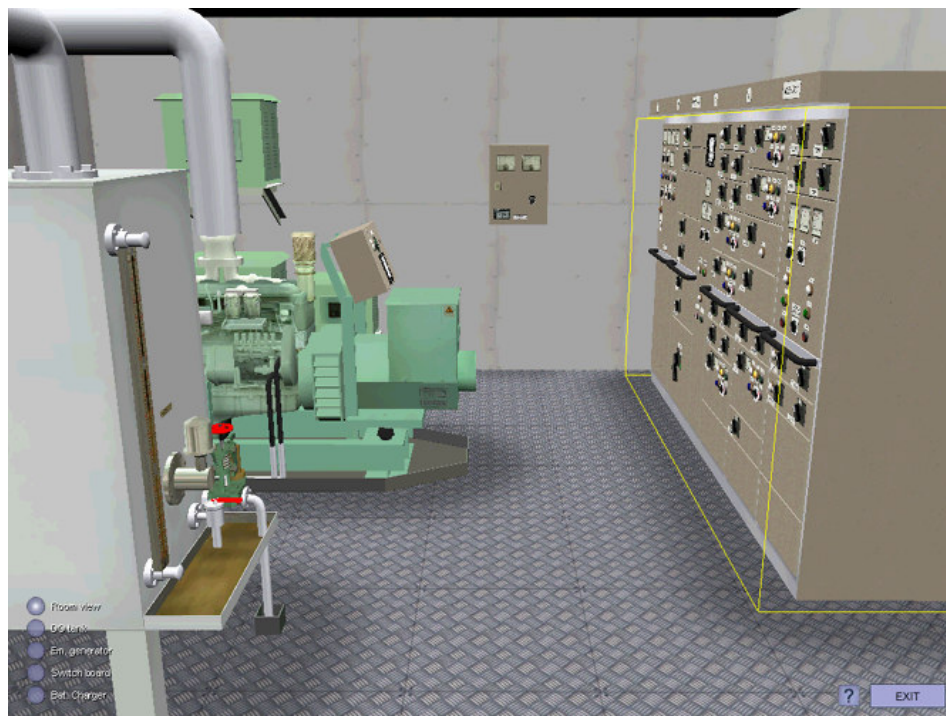

Fig. 4. Zooming selection of emergency switchboard
2. Zooming of selected parts of system's elements (by mouse clicking on yellow boxes fig. 4).